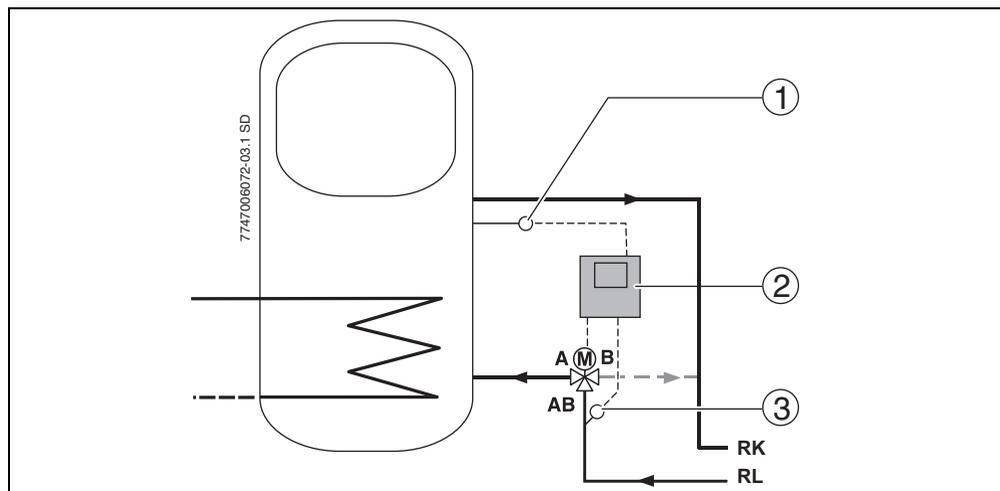

Fig. 4 Installation diagram for combination cylinder return boost
Observe the connection markings on the diverter valve. The valve in Fig. 4 allows fluid to flow from AB to B when de-energised. Once the set temperature difference is reached, the valve switches over to divert the flow from AB to A.
- Fit the diverter valve in the return pipe between the solar storage cylinder (→ Fig. 4) and the boiler.